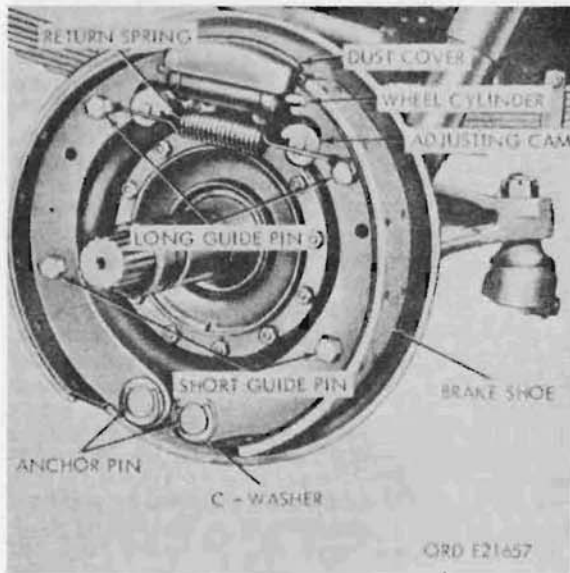

Figure 212. Service brake interior.
a. General. Some trucks, by replacement or by later production, have screw-type service brakeshoe guide pins (fig. 212), instead of riveted ones. Inspection of the pins will reveal type. Pins having hex-head are of later or modified screw-type. Earlier pins had C-washers or spring pins to hold the brakeshoe on pins.
- (1) Remove service brakedrum.
- (3) *Remove brakeshoe anchor pin C-washer.* Remove the anchor pin C-washer (fig. 212) from anchor pins. Remove the shoe anchor pin washer from the pins.
- (4) *Remove shoes.*
- (b) *Remove shoes retained by hex-head type guide pins.* Remove the hex-nuts and lockwashers holding four long guide pins (fig. 212) to the flange plate. Pull the shoes free of the cylinder piston rods and then straight out from the flange plate, being careful not to lose the shoe antirattle springs on the long guide pins and lower guide pin washers. Remove the washers and short guide pins from shoes. Remove the upper guide pin C-washer holding long guide pins in shoes, and remove the pins from shoes. Remove the felt washers and felt washer retainers from the anchor pins.
- (1) *Install shoes.*
- (a) *Install shoes retained by hex-head type guide pins.* Install the long guide pins (fig. 212) through the upper holes in the brakeshoes and secure each pin in the shoes with the upper guide pin C-washer. Install the antirattle spring on each long pin. Install the short guide pin in the lower pin holes in the shoes, and install the lower guide pin washer on each short pin. Install the felt washer and felt washer retainer on each anchor pin. Install the brakeshoes on the anchor pins, engage the shoes in the cylinder pistons, and insert the guide pins in the pin holes in flange plate. Secure each guide pin to plate with a lockwasher and hex-nut.
- (b) *Install shoes retained by guide pin C-washers or spring pins (fig. 212).* Install the felt washer and felt washer retainer on each anchor pin. Install the antirattle spring and guide pin thick washer on each long guide pin, and thick washer on each short guide pin. Install the brakeshoes on anchor pins, engage the shoes in cylinder piston rods, and slide the shoes inward to install the guide pins in the pin holes in shoes. Install the guide pin thin washer over each pin and secure the washer and brakeshoe on pin with the guide pin C-washer or spring pin.
- (2) *Install brakeshoe anchor pin C-washer.* Install the anchor pin washer and C-washer on anchor pin. Turn the anchor pins in directions indicated in figure 212 until the marks on pins are toward each other. Check the freedom of shoes on the guide and anchor pins. Remove the cylinder clamp from cylinder.